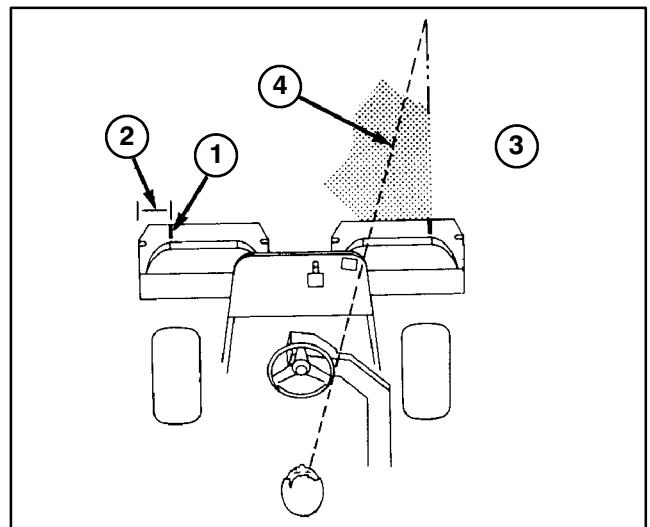

Figure 24
2. Either place a strip of white tape or paint a line onto each basket paralleling the outer edge of each basket (Fig. 24)
distance from the edge of the previous cut, establish an imaginary sight line approximately 6 to 10 feet ahead of the machine to the edge of the uncut portion of the green (Fig. 24 & 25). Some find it useful to include the outer edge of the steering wheel as part of the sight line; i.e. keep the steering wheel edge aligned with a point that is always kept the same distance away from the front of the machine (Fig. 24 & 25).